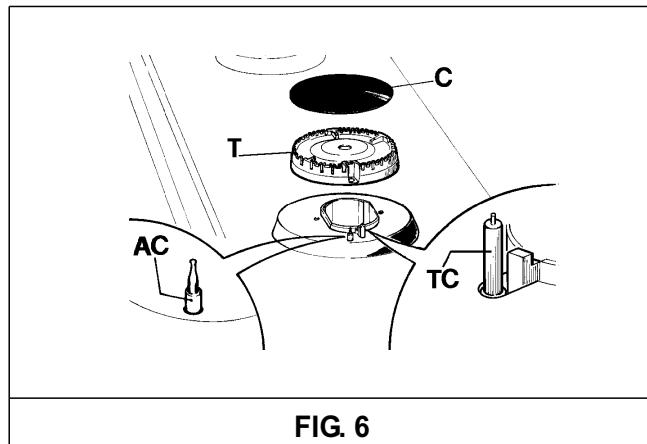

FIG. 6
Periodically wash the hot plate, the enamelled steel pan support, the enamelled burner caps "C" and the burner heads "T" (see fig. 6) with lukewarm soapy water. Following this, all parts should be thoroughly rinsed and dried. Never wash them while they are still warm and never use abrasive powders. Do not allow vinegar, coffee, milk, salted water, lemon or tomato juice from remaining in contact with the enamelled surfaces for long periods of time.
- check that burner head slots "T" (fig. 6) have not become clogged by foreign bodies.
- Check that enamelled burner cap "C" (fig. 6) have correctly positioned on the burner head. It must be steady.**